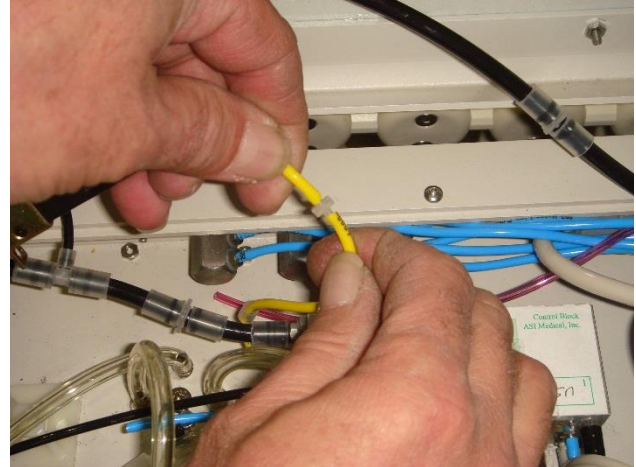

Fig. 5
- To attach the new pressure gauge, slide provided sleeve over cut yellow tubing, insert straight through connector, then slide the sleeve down to secure the connection. Repeat for the other side. (Fig. 5)